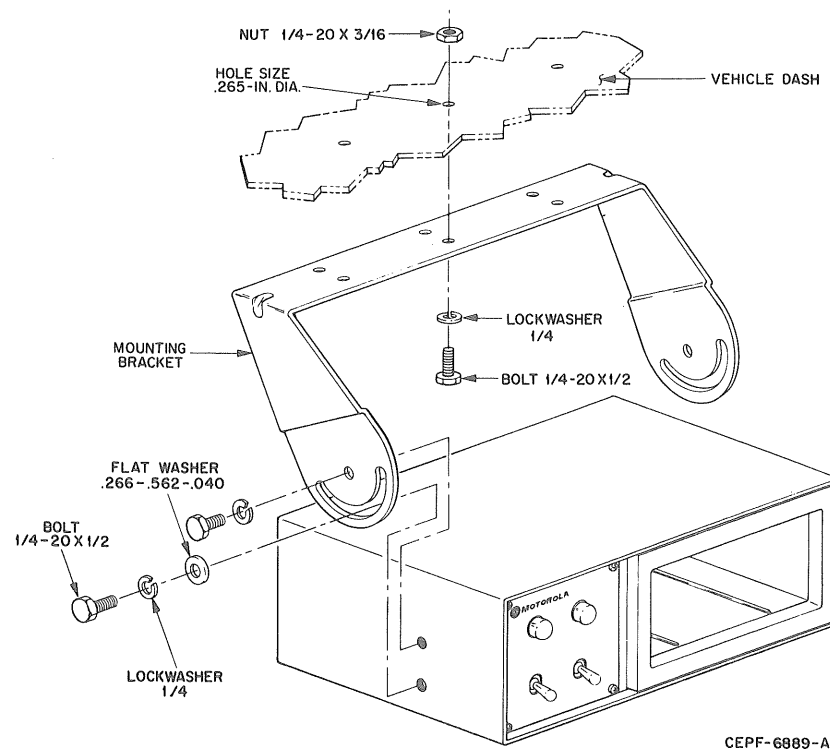
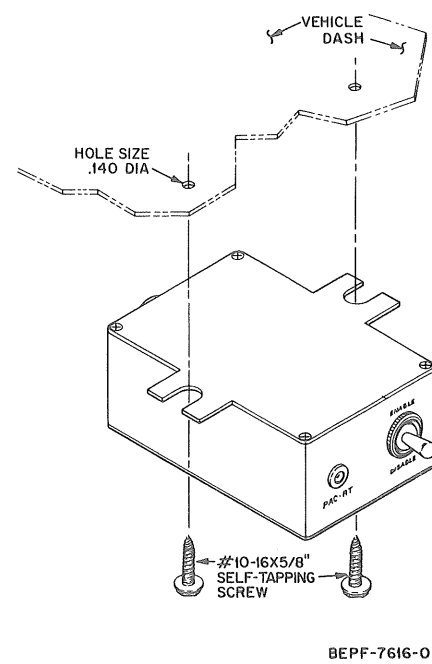

Figure 6. Vehicular Charger or Holder Installation Detail
Figure 7. Control Unit Installation Detail
The PAC•RT vehicular repeater control unit may be a control unit/vehicular charger, a control unit/holder, or a control unit only. Mounting hardware is supplied with each unit for mounting the control unit below the dashboard. Refer to Figure 6 for the control unit/vehicular charger or the control unit/holder mounting details. Refer to Figure 7 for the control unit mounting details.
b. Mount the control unit mounting bracket to the dash using the mounting hardware designated in Figure 6 or 7 as applicable.